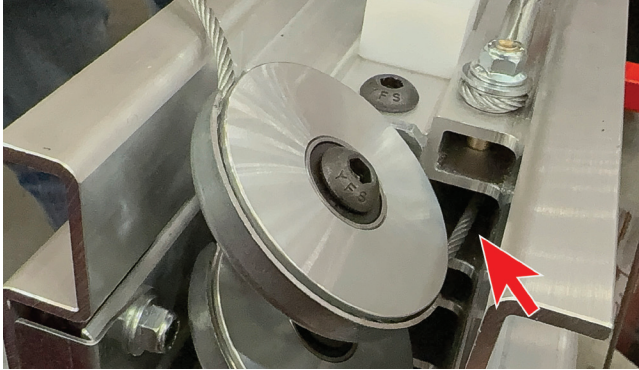

Figure 4-9: Routing Cable from Top Pulley and Down Between Masts
18. Route the cable from the front mast's top pulley and into the area between the back side of the front mast and the front side of the second mast (see Figure 4-9). NOTE: The end of the cable will point to this area between the masts as it exits the top pulley. Move the cable down between the mast sections until it exits the bottom of the mast assembly. Continue pulling the cable until all slack is removed and the fork carriage is pulled up the front mast.